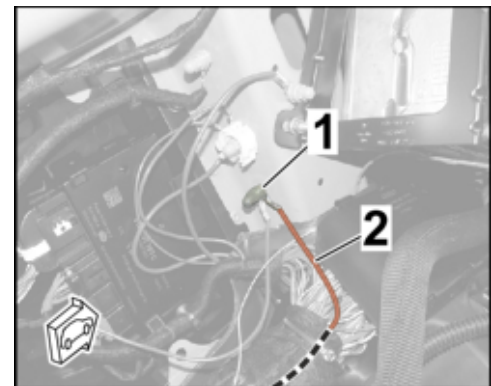

Figure 18
2.6 Earth connection (terminal 31) ⇒ *Figure 18*